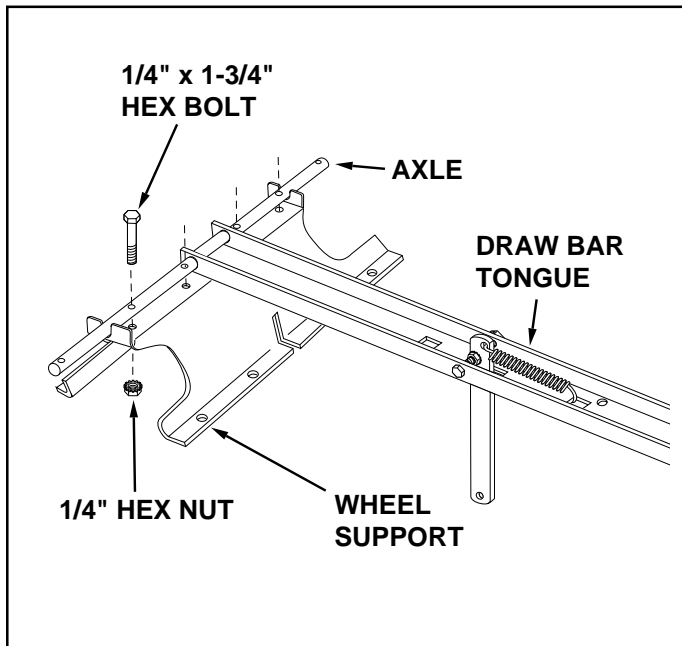

FIGURE 4
7. Assemble the axle and drawbar tongue to the wheel support, with the open side of tongue facing away from the wheel support. Fasten the axle to the wheel support using four 1/4" x 1-3/4" hex bolts and 1/4" hex nuts. **Tighten.** See figure 4.